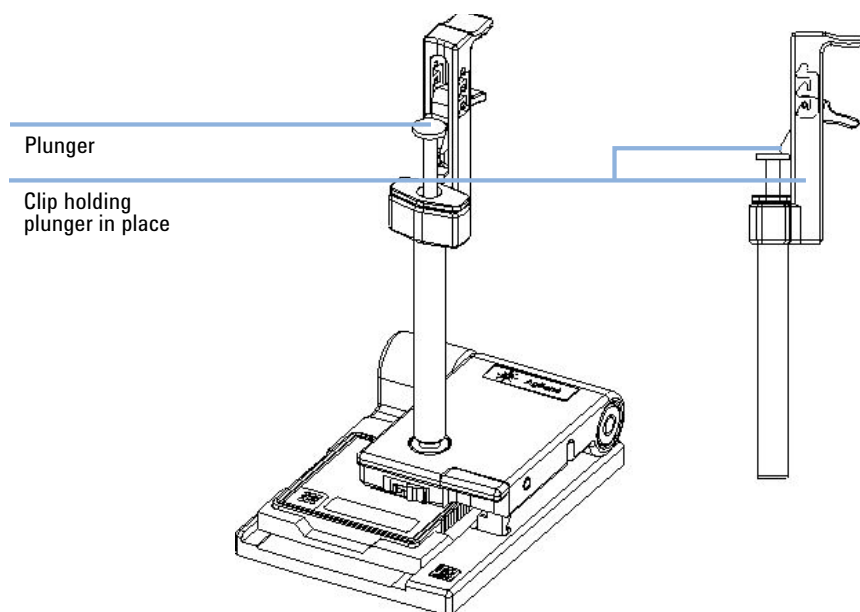

Figure 8 Locking the plunger of the syringe with the clip
- 5 Press the plunger down until it is locked by the clip. This is shown in Figure 8 on page 134.